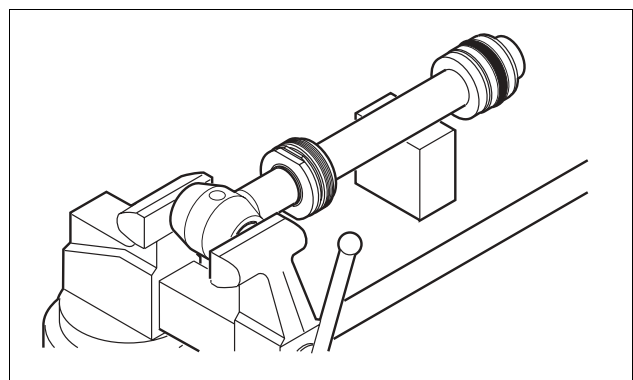

Fig. 26 Fasten the piston rod assembly in a vise and place a support under the piston rod
9. Fasten the piston rod assembly in a vise and place a support under the piston rod. *See Fig. 26.*